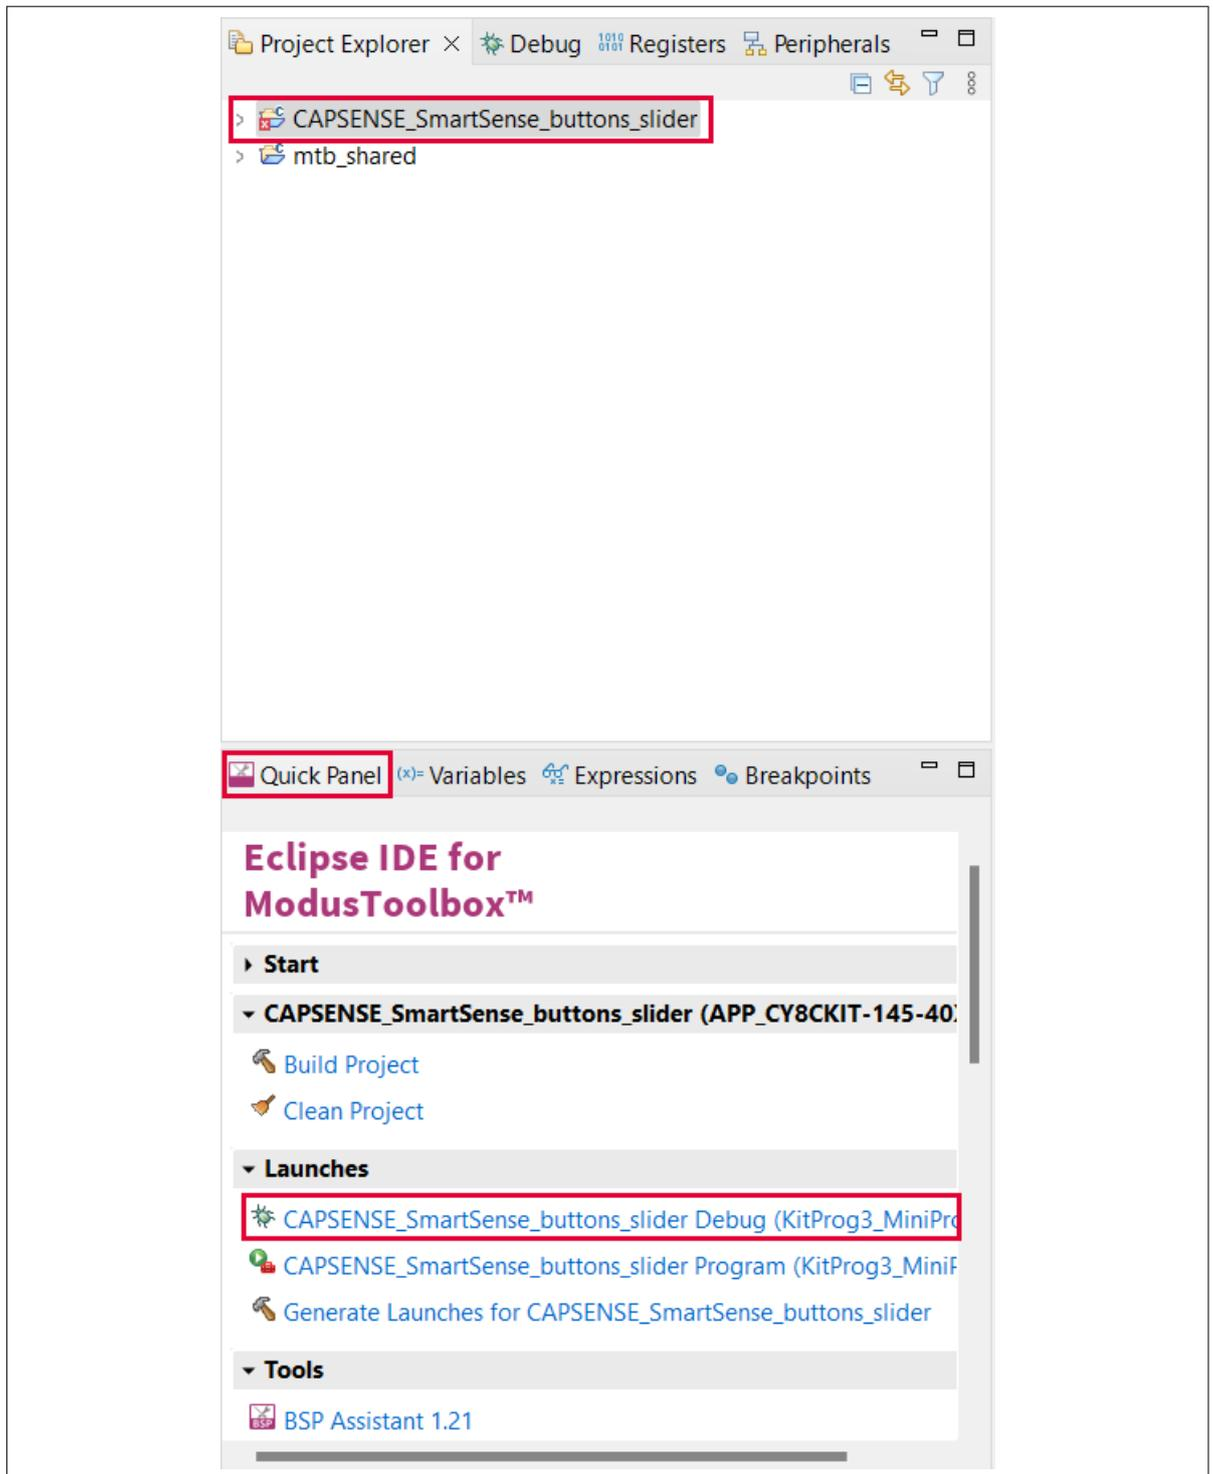

Figure 14 Debugging the code example
4. ModusToolbox™ software has an integrated debugger. To debug the PSOC™ 4000S device application, in the Project Explorer tab, select the project. In the **Quick Panel** tab, scroll to the **Launches** section, and click the **<App_Name> Debug (KitProg3_Miniprogram4)** configuration, as shown in Figure 14